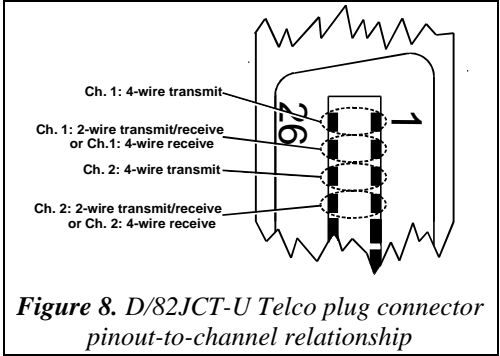

Figure 8. D/82JCT-U Telco plug connector pinout-to-channel relationship
- The Telco plug cable connector tabulation is arranged so that the four conductors of one station set circuit are adjacent on a standard, type-66 punch-down block. The pattern shown in Figure 8 continues down the connector so as to encompass all eight channels with two pairs of conductors per channel, for a total of 16 twisted-pair conductors.